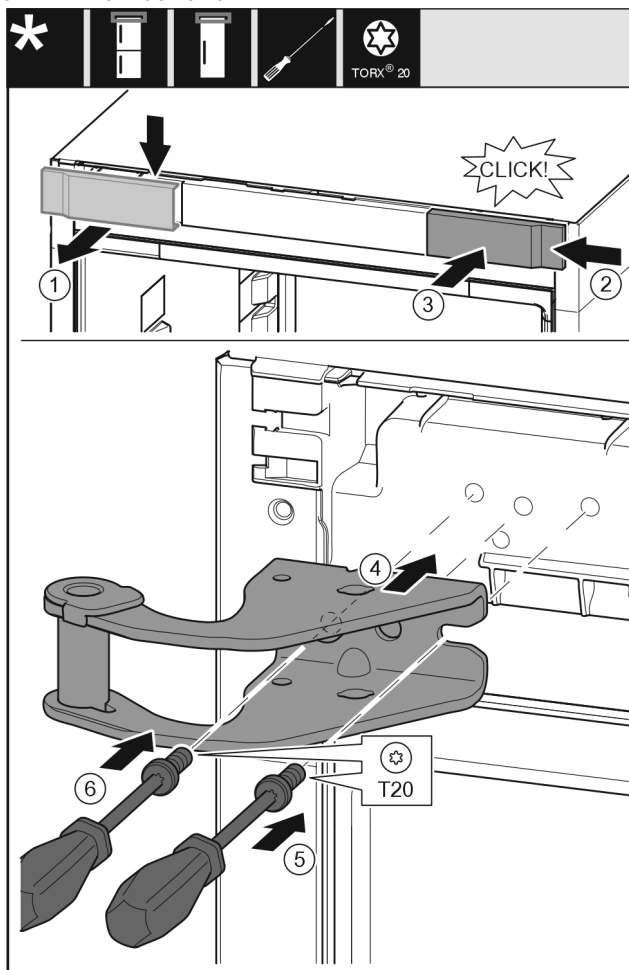

Fig. 31
- ▶ Take off the cover to the front from above. Fig. 31 (1)
- ▶ Rotate the cover 180° and clip onto the other side from the right. Fig. 31 (2)
- ▶ Latch the cover into place. Fig. 31 (3)
- ▶ Position the upper bearing bracket. Fig. 31 (4)
- ▶ Insert the screw with a T20 screwdriver and tighten it. Fig. 31 (5)
- ▶ Insert the screw with a T20 screwdriver and tighten it. Fig. 31 (6)